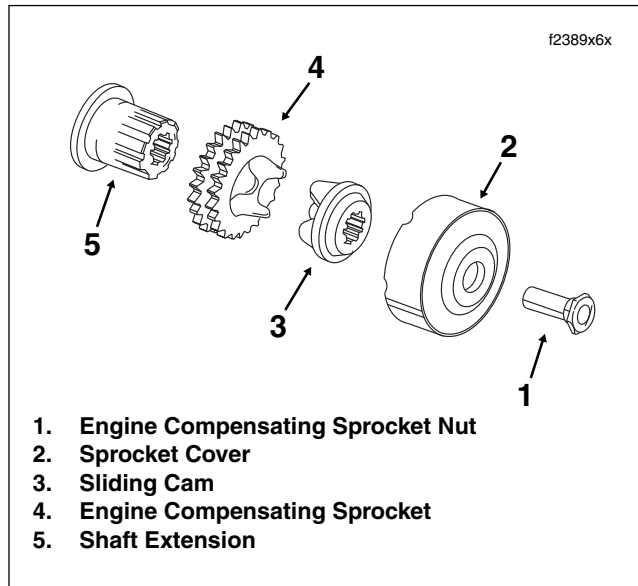

Figure 6-19. Engine Compensating Sprocket Assembly
- Remove sprocket cover and sliding cam. See Figure 6-19.